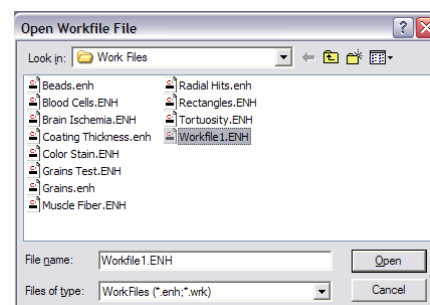

fig.5
10. Save the **Workfile** (fig.4). **File menu > Save As > assign a file name > Save** (fig.5).